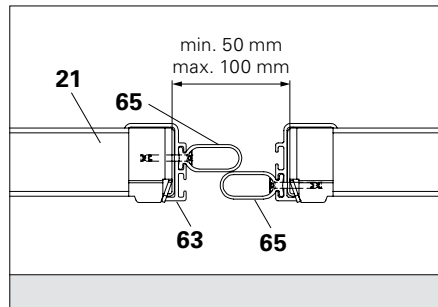

Fig. C2.12a
Install Draw-In Profile LPS 20/55 (65) offset on both sides. (Fig. C2.12a)